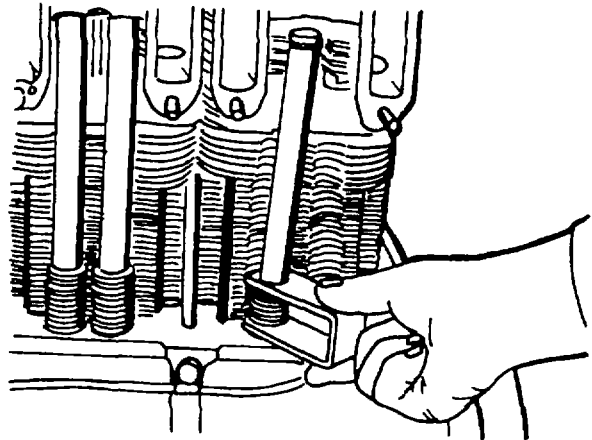

Figure 4-33. Removing Spring Tensioner
- q. Insert the spring ends of the two push rod tubes in the push rod holes in the crankcase and locate the upper ends with gaskets in the cones of the cylinder head. Remove the spring tensioner (figure 4-33).